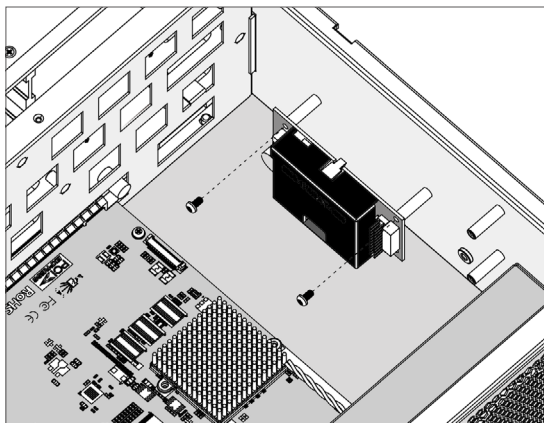

Figure C-6, Secure the Battery Module
2. After removing the cover, then secure the battery pack module (ARC-6120-BAT121-7, reference NO.1 in Figure C-1) on the right side within the enclosure (for ARC-8050T3-24R), as shown in Figure C-6.